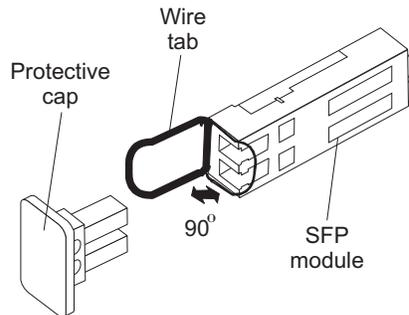

Figure 24. Unlocking the SFP module latch - wire variety
- For SFP modules that contain wire tabs, unlock the SFP module latch by pulling the wire latch outward 90°, as shown in Figure 24.